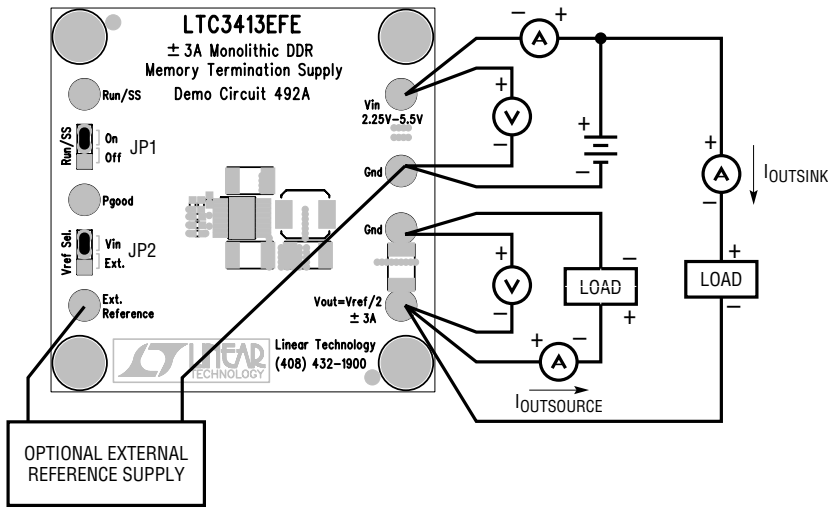

Figure 1. Proper Measurement Equipment Setup
Demonstration circuit 492 is easy to set up to evaluate the performance of the LTC3413. Refer to Figure 1 for proper measurement equipment setup and follow the procedure below:
3. Connect the loads as shown in Figure 1.